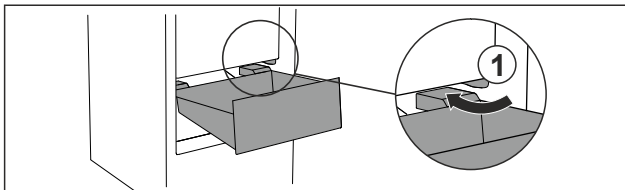

Fig. 68
- Guide drawer in at an angle around the stoppers *Fig. 68 (1)*.